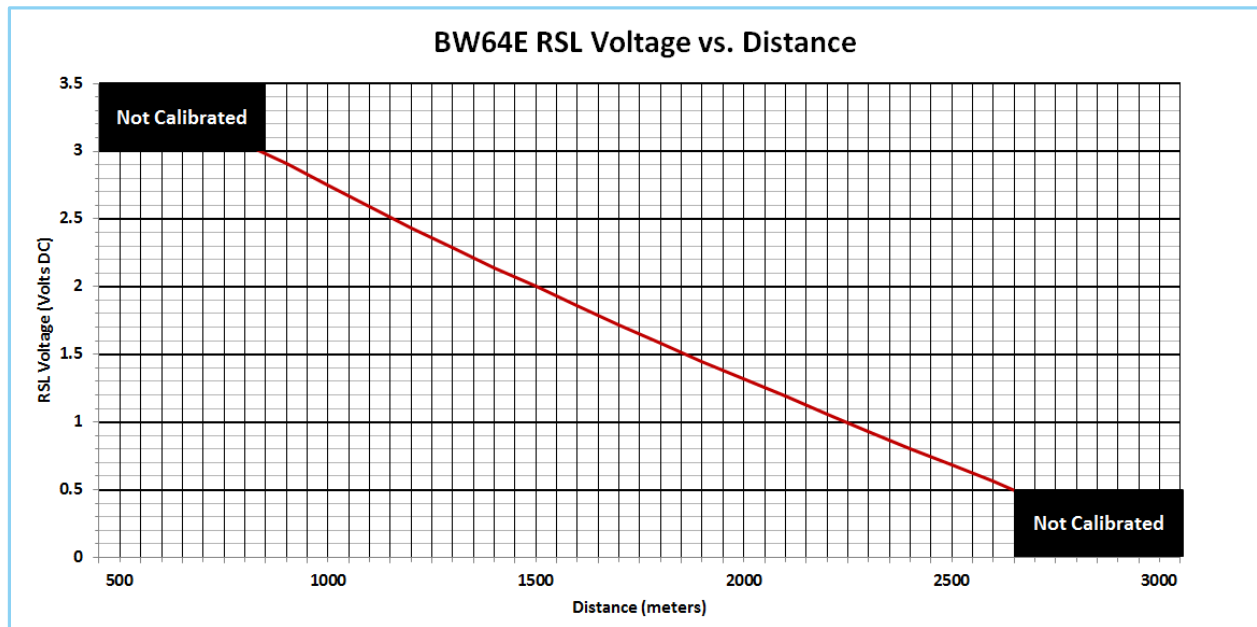

Figure 3-6 RSL Voltage vs. Distance
1. Confirm your target Received Signal Level (RSL) voltage from the chart in the RSL Voltage vs. Distance graph in Figure 3-6 of Appendix B, or by using the BridgeWave Availability Calculator.